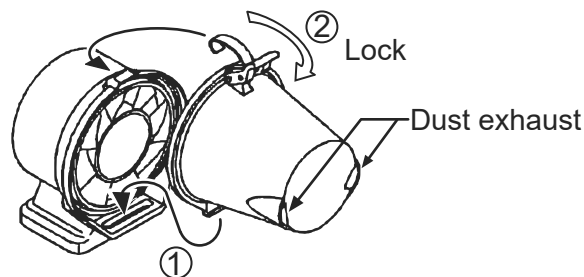

Fig.41
- iii) Latch up securely to return Dust Pot to Air Cleaner.(Fig. 41)